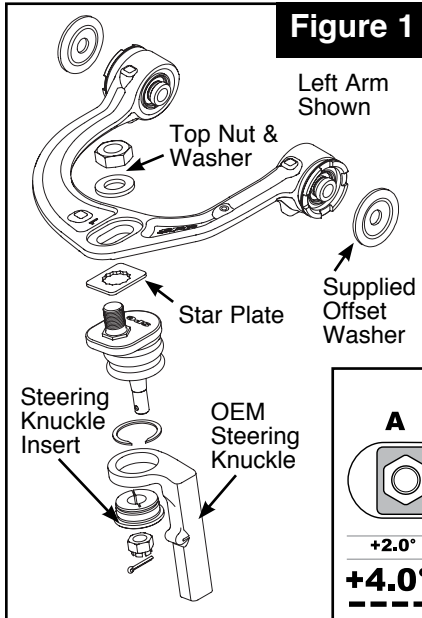

Figure 1
9. Press supplied steering knuckle insert into knuckle with flange on bottom, see Figure 1.